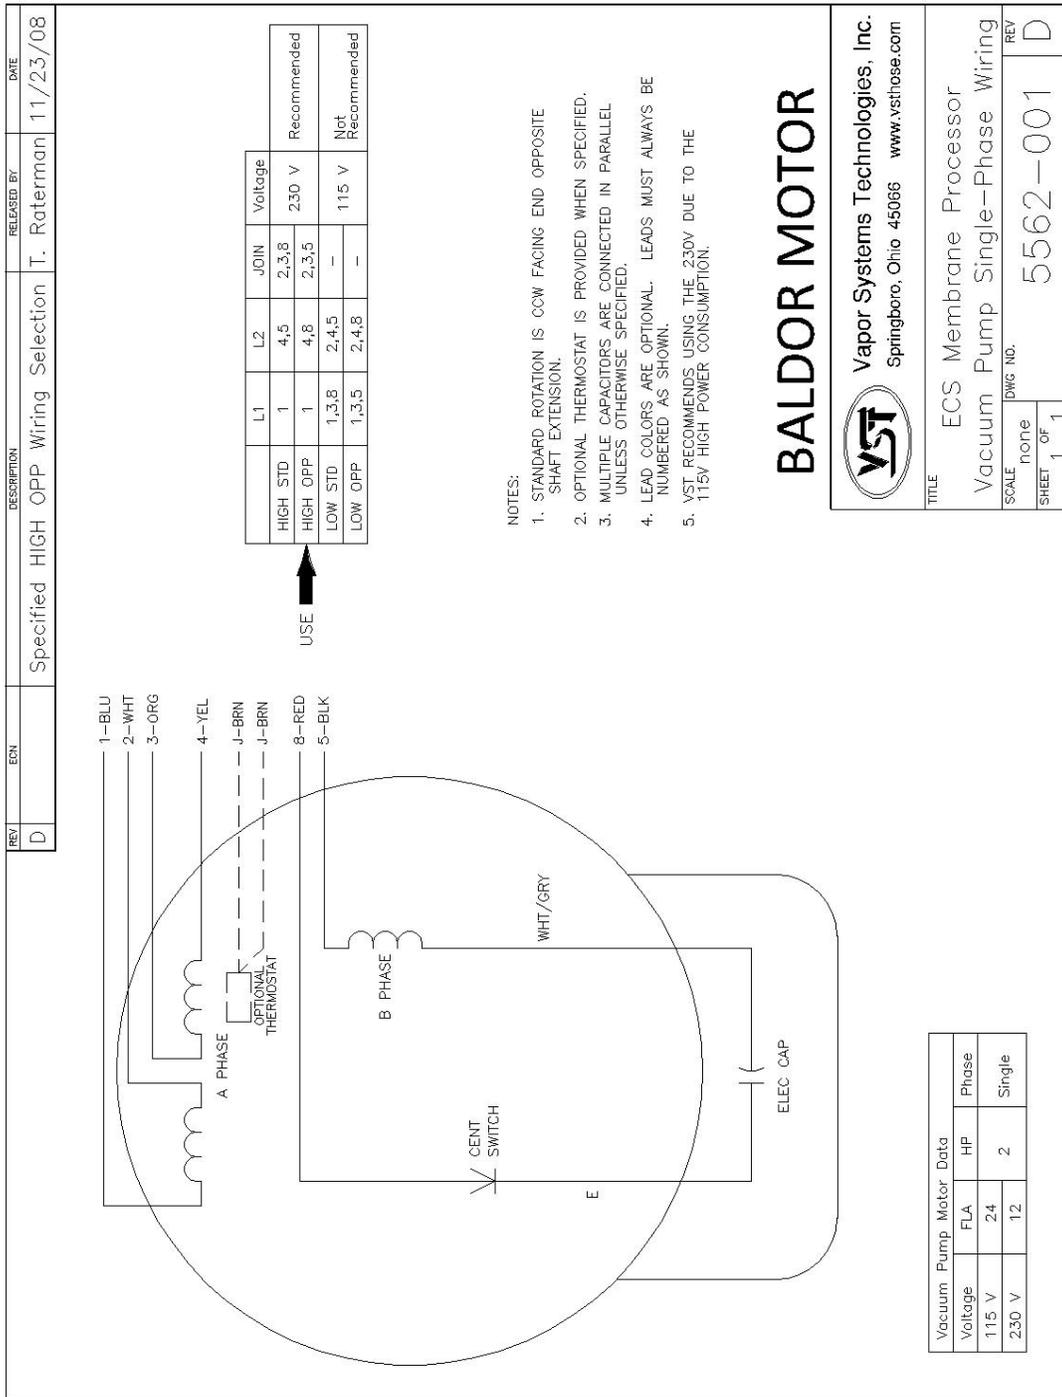
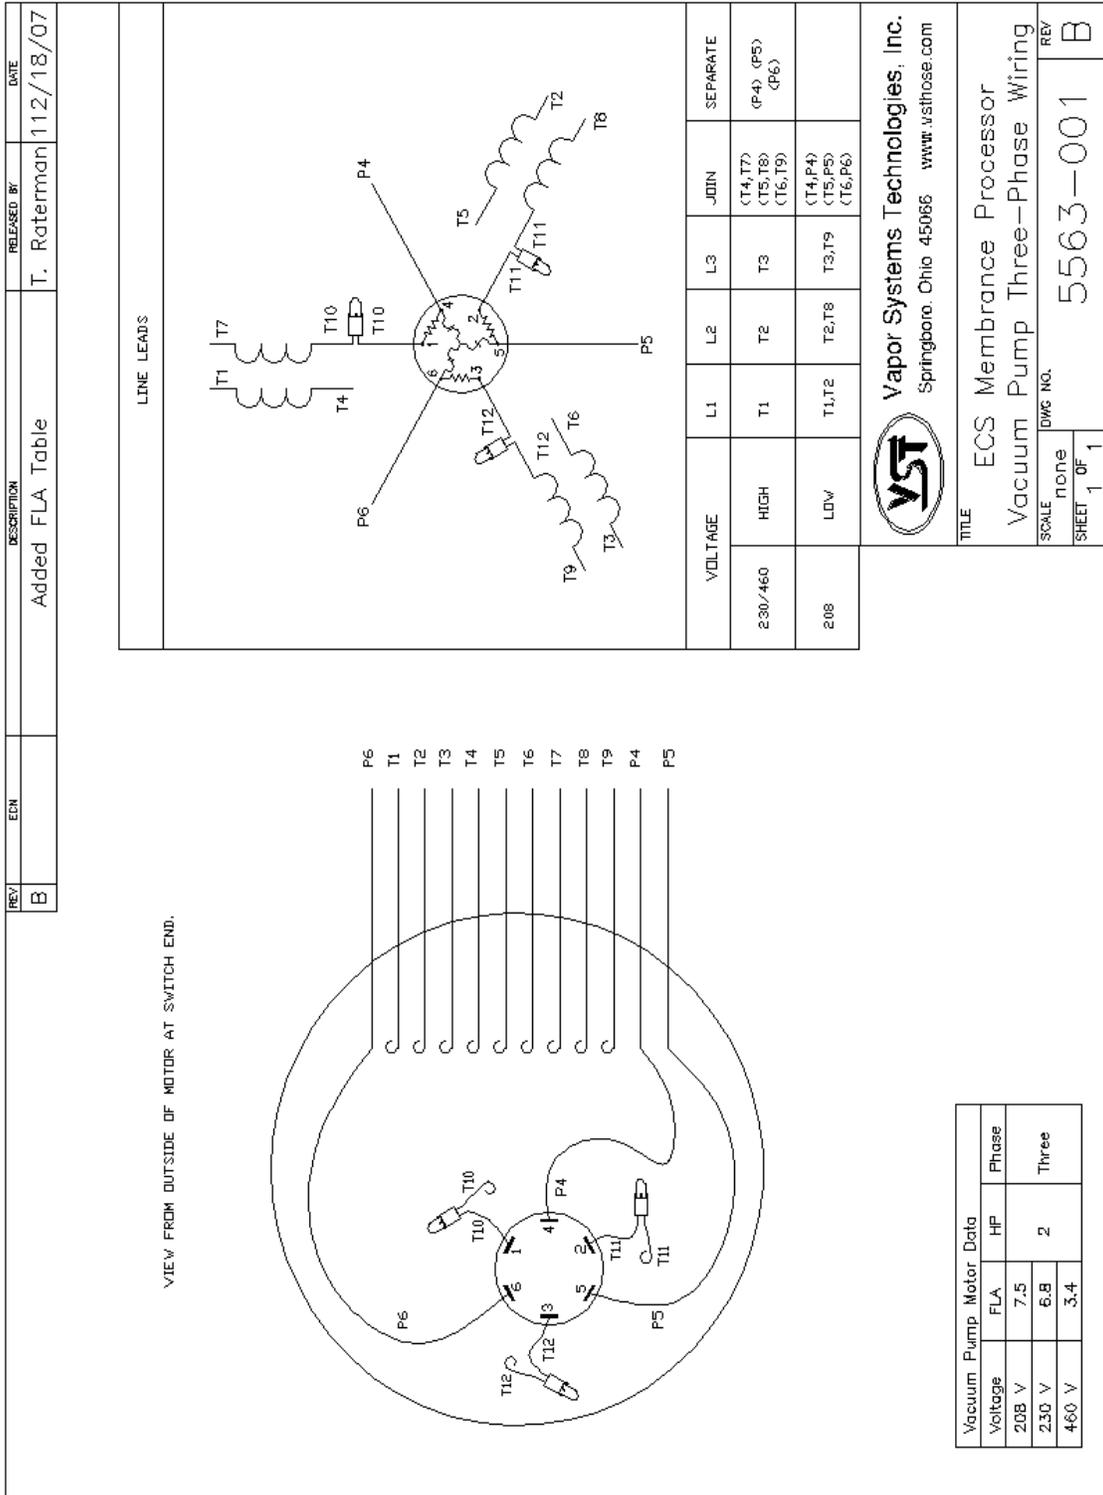

Figure 14: Vacuum Pump: Single-Phase Motor Wiring Diagram
Figure 15: Vacuum Pump: Three-Phase Motor Wiring Diagram
- ▶ See Figure 14 and Figure 15.